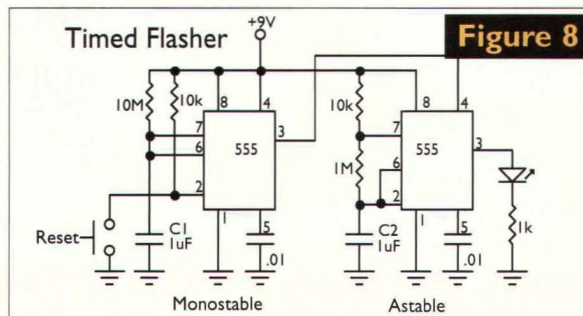

Figure 8
A. I'm surprised at how versatile the 555 chip really is. It has solved more than a few sticky problems. Again, this is a not-so-unique case. Remember, the 555 can be configured as a monostable (one shot) or astable (free running) oscillator. What we need here is a monostable circuit, with a 10 second time-out, and an astable oscillator running at 2 Hz. If you haven't already figured it out for yourself (yes, this is kind of a quiz for those readers who think they know the 555), then here is the answer (Figure 8).